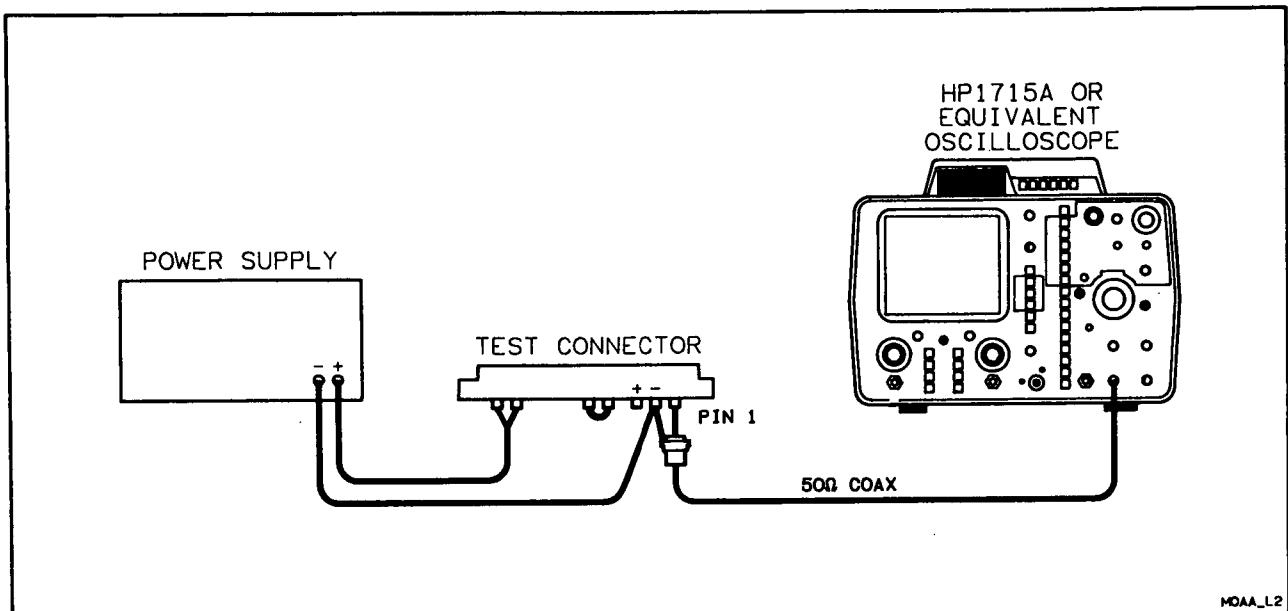

Figure 8-11. Output Amplitude Adjustment Setup
- f. Connect the power supply to pins 2 (-) and 3 (+) of the 15 pin test connector, as shown in *Figure 8-11*. (See instructions in paragraph 8-386, Special Test Connector, to fabricate the test connector.)